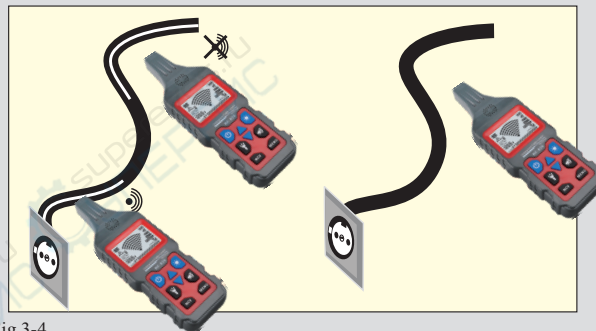

Fig 3-4
- ※ The measurement must be conducted according to Fig.3-4;